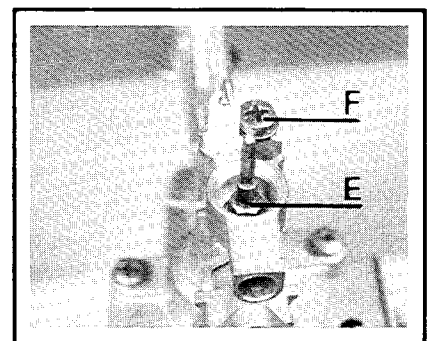

Fig. 4
## 5) Thermocouple (fig. 4 and 5).
- With a 7 m.m box spanner, unscrew the nut E (fig. 4) holding the thermocouple into the gas section.
## 6) Spark Electrode (fig. 4).